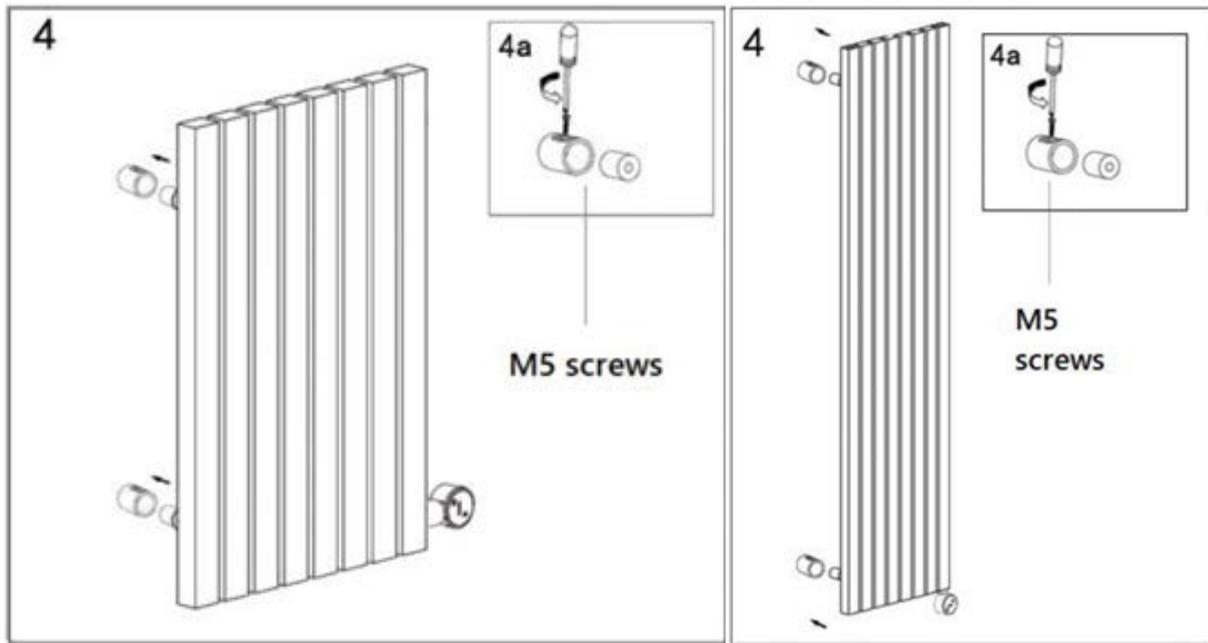

Figure 5 | Securing the radiator to the wall (horizontal and vertical)
- b. Using a 10mm drill bit, drill four holes in the marked locations and push the Wall Plugs (C) inside.
- c. Position the Wall Brackets (D) over the holes and fix in place using the Washers (E) and Wall Screws (F)
- d. Lift the radiator, slide the Radiator Brackets (A) inside the Wall Brackets (D) and fix in place with the M5 Screws (G) as shown in **Figure 5** (page 10).